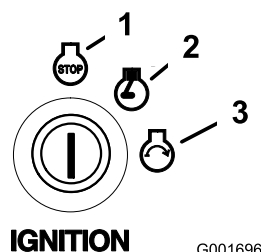

Figure 15
6. Turn the ignition key to Start (Figure 15). When the engine starts, release the key.
4. Turn the ignition key to the off position and remove the key (Figure 15).